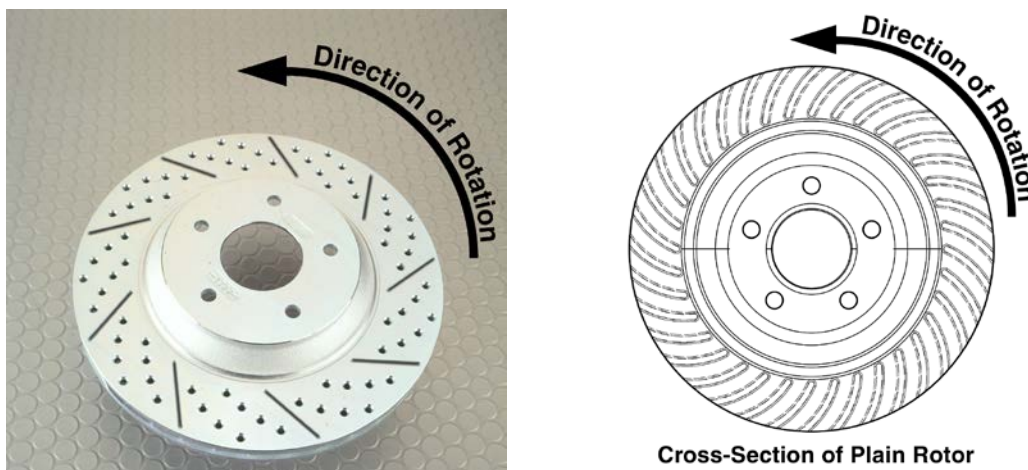

Figure 4 – Direction of Rotor Rotation
9. Place the correct LH or RH rotor onto the axle flange. Use three lug nuts when installing to hold the rotor tight against the flange which will the rotor from moving to allow for caliper installation and to avoid scratching the rotor. When installing rotors, be sure to follow the direction of rotation indicated on the rotor hat area with either an arrow or with an "L" for driver side or an "R" for passenger side. Figure 4 below shows the direction for reference.